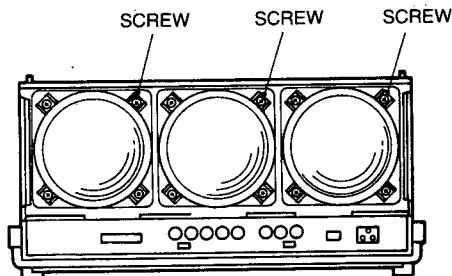

Fig. 40
(7) After mounting the SPACERS, re-install the three LENS units, (4 screws each) [Fig. 40]